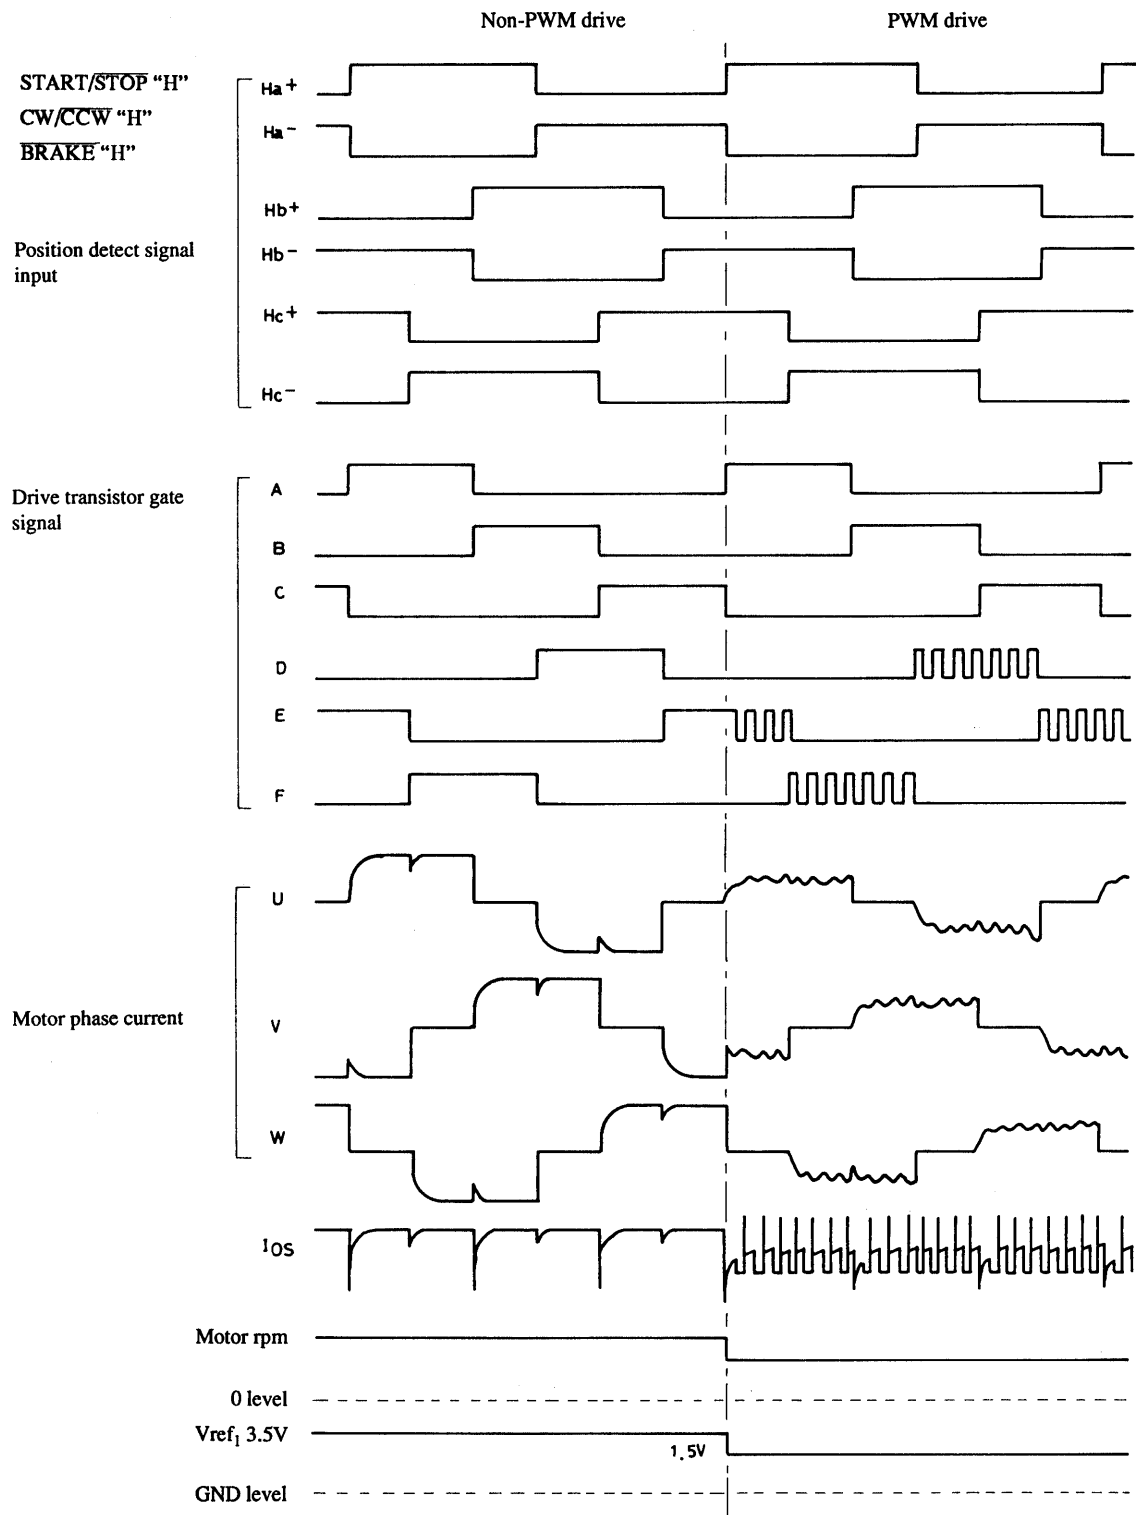
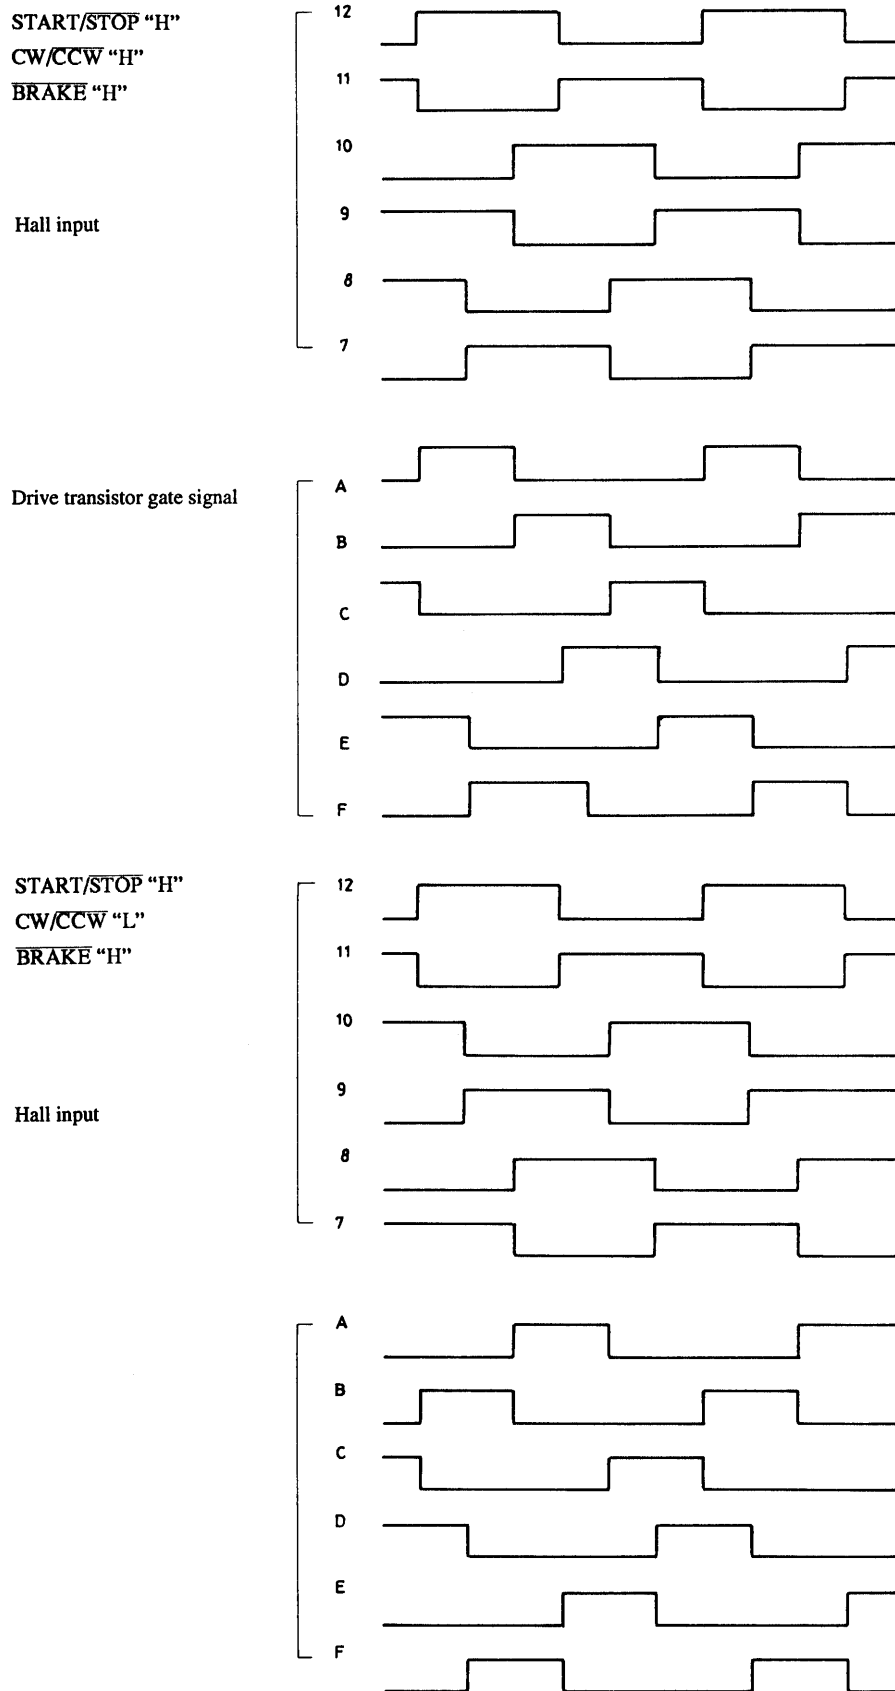

Fig. 3 I/O Timing Chart
Fig. 5 CW/CCW I/O Timing Chart
The conditions before input of V_{CC1} , with V_{CC2} on, are START/STOP pin H level, CW/CCW pin H level, BRAKE pin H level and V_{ref1} pin (speed control input) H level. The position detect signal at this time, due to the effect of the rotor magnetic field, will be output signals from 1 or 2 devices (of the 3) so that $H_{X+} > H_{X-}$ is input to HIC pins 7-12. The signals input to pins 7-12 are input to the motor controller and converted into signals compatible with 3-phase brushless motor revolution. When V_{CC1} is supplied the charge pump circuit activates, generating V_{CC1} MOSFET gate voltage V_Z . This outputs excitation current to the motor phase windings as indicated in the timing chart (Fig. 3), and rotating the motor.
The direction of motor revolution can be selected by setting the input level to H or L. CW is H level and CCW is L level. The CW timing chart is indicated in Fig. 3, and the CCW timing chart in Fig. 5.
Because signal input sensitivity V_H is $\pm 500\text{ mV}$ max, the level of the output signal (open collector) from the Hall IC must be reduced through conversion. A sample of this circuit is shown in Fig. 7. The position detect signal must be compatible with the motor phase winding even in the time chart state shown in Fig. 3, or the motor may not revolve smoothly.